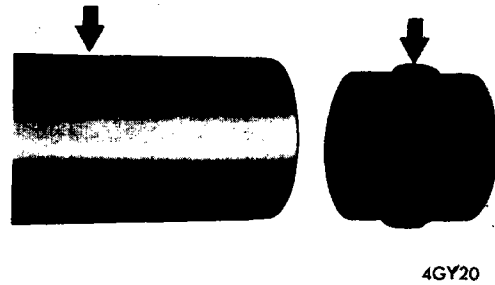

Fig. 26. Protrusions on rubber bushes and corresponding holes in steering column
- Remove the end cap (40) and depress the protrusions on the rubber bushes (43) and (55) as shown on Fig. 26. Using a length of bar, eject the bushes from the outer column (44). Remove the metal inserts (42) and nylon bushes (41) from the rubber bushes.